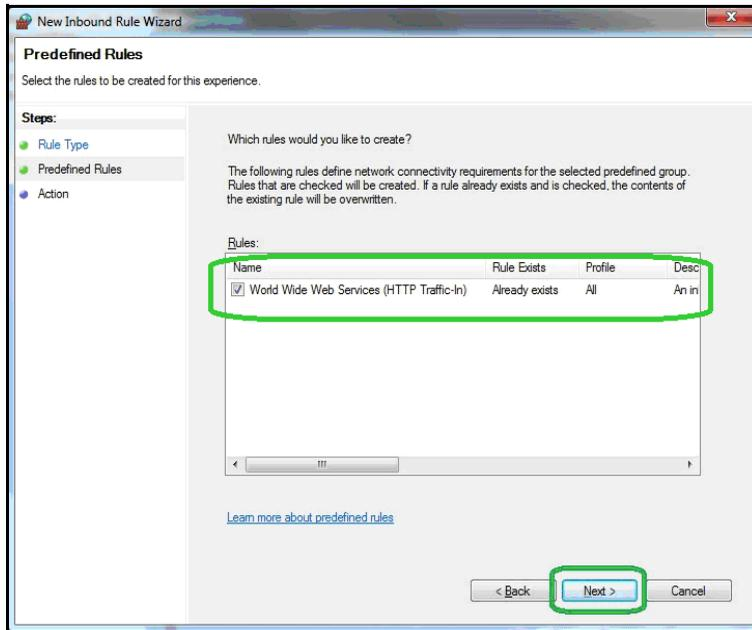

FIGURE 2-43 Windows® Firewall - New Inbound Rule Wizard - Rule (World Wide Web)
Step 20 On the **Predefined Rules** page, select **World Wide Web Services (HTTP Traffic-In)**, as shown in FIGURE 2-43.